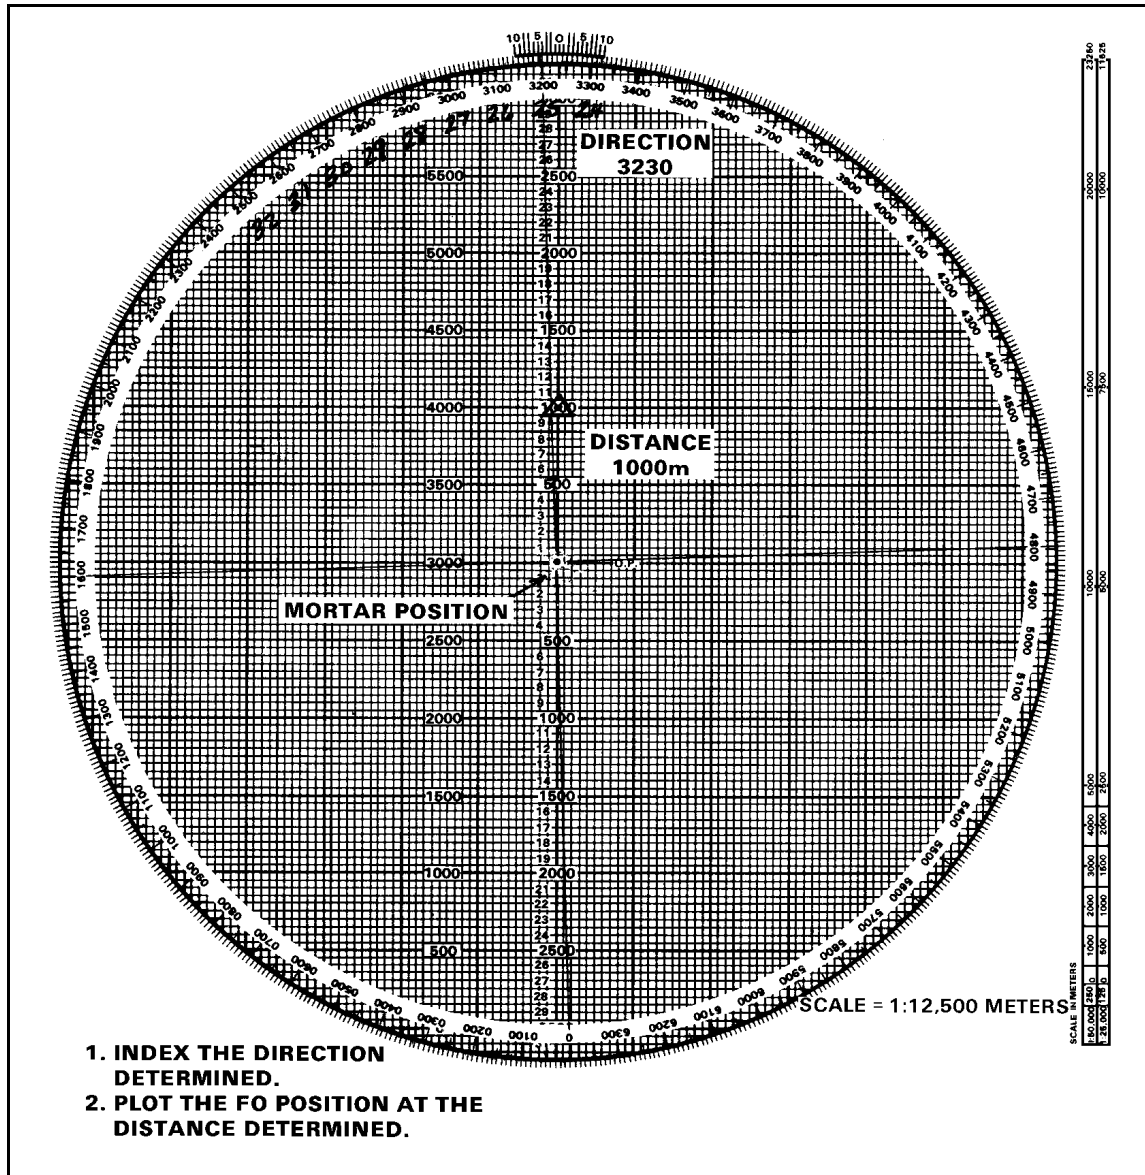

Figure 12-24. Direction and distance.
b. **Direction and Distance** (Figure 12-24). The FO sends the computer the grid to the FO position. The computer then plots the grid on the map, determines the direction and distance from the mortar position to that grid, transfers the direction and distance to the plotting board, and plots the FO's location.